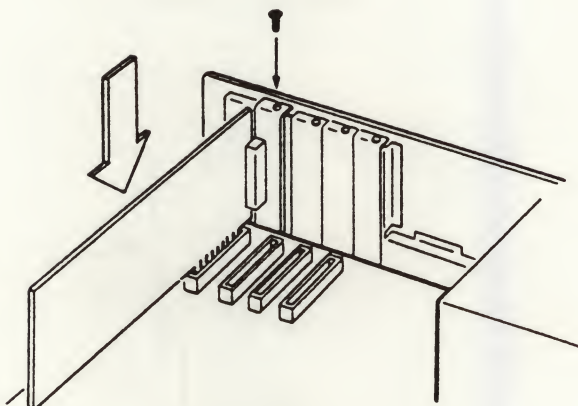

Figure 3-13 Installing the Tape Controller Card
5. Install the tape controller card into your expansion slot as shown in Figure 3-13.